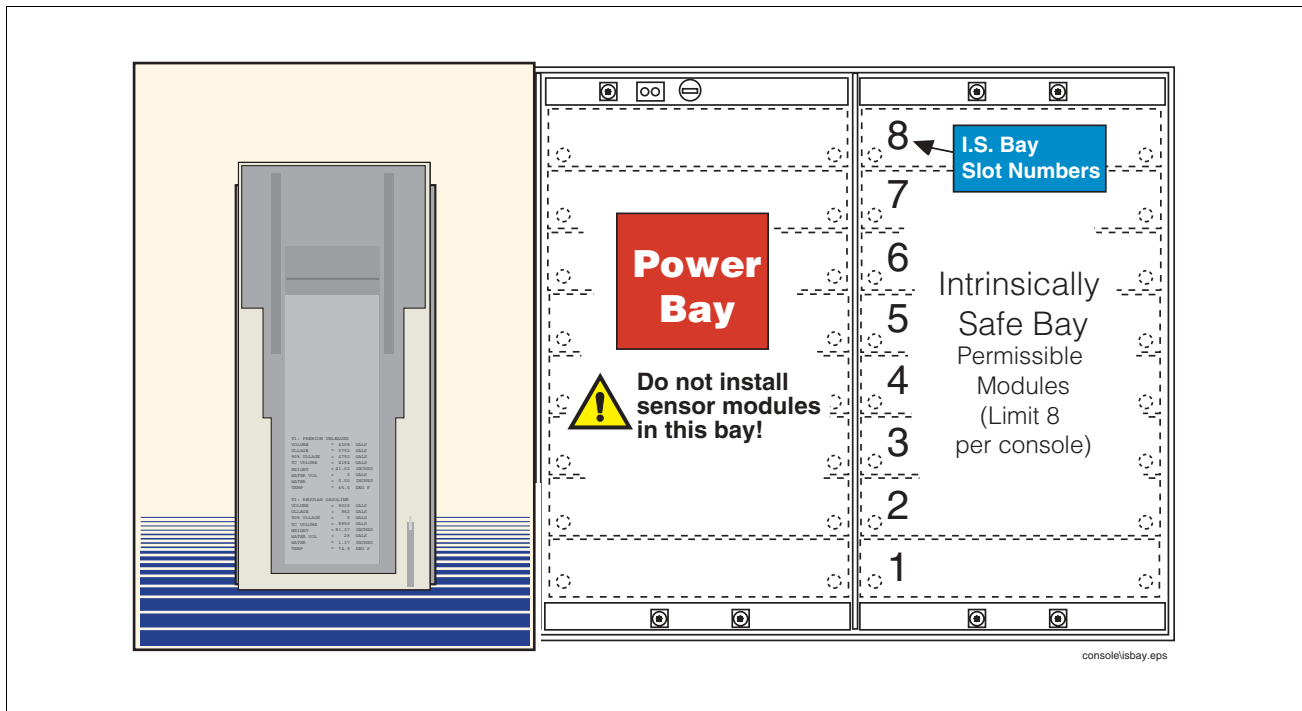

Figure 2. Locating the intrinsically safe bay in the TLS Console
3. Locate the IS bay in the right side of the console (Figure 2). Avoid shorting high voltage across any component or module to the intrinsically safe (IS) bay of the console. This could result in an explosion near the sensor.